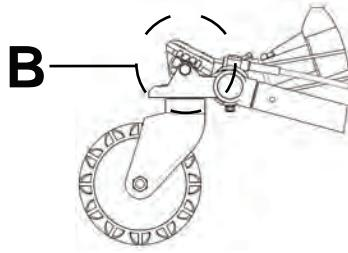

Figure 12 – Steer-Lock on
To apply Steer-Lock (B), press the red pedal down and toward the middle of the cot X-frame (Figure 12).